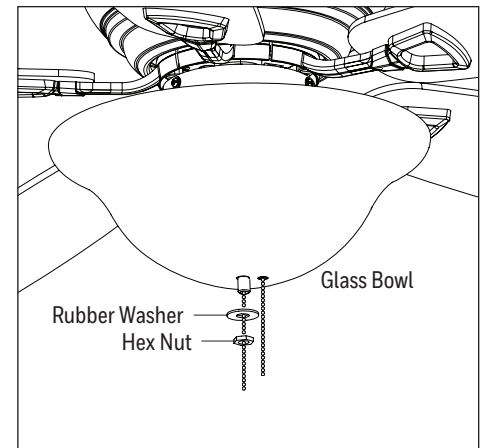

Figure 2.15
15. Feed the pull chain coming from the switch housing through the off-center in the glass bowl. Then, feed the pull chain coming from the center of the light kit through the center hole in the glass bowl. Secure the glass bowl with rubber washer and hex nut (Figure 2.15).